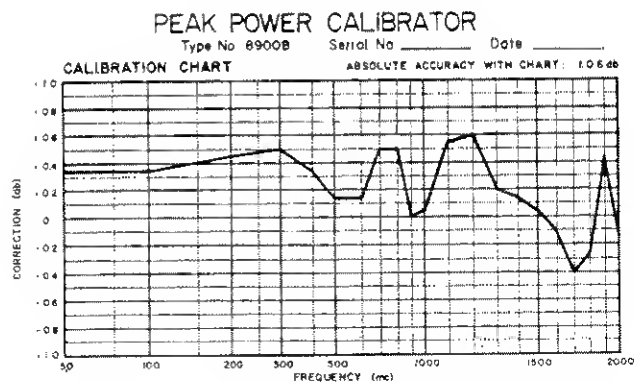

Figure 3-5. Typical Custom Calibration Chart
- c. Input VSWR reflection error. The typical input VSWR over the 8900B frequency range is shown in Fig. 3-5.
3-31. The Custom Calibration Chart (Fig. 3-5) supplies correction for errors attributable to the frequency sensitive components in the RF circuitry of the instrument. This chart information is obtained by maintaining a constant 100 mw (0 db) input to the Peak Power Calibrator and plotting the required meter correction over the frequency range as measurements are made.